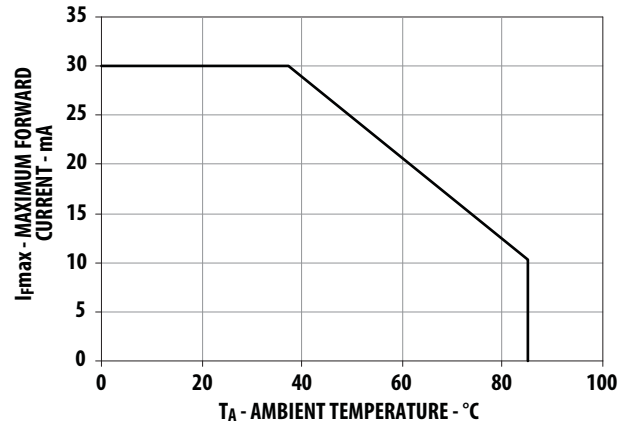

Figure 9. Maximum Forward Current vs Ambient Temperature
1. Derate linearly as shown in Figure 4 and Figure 9